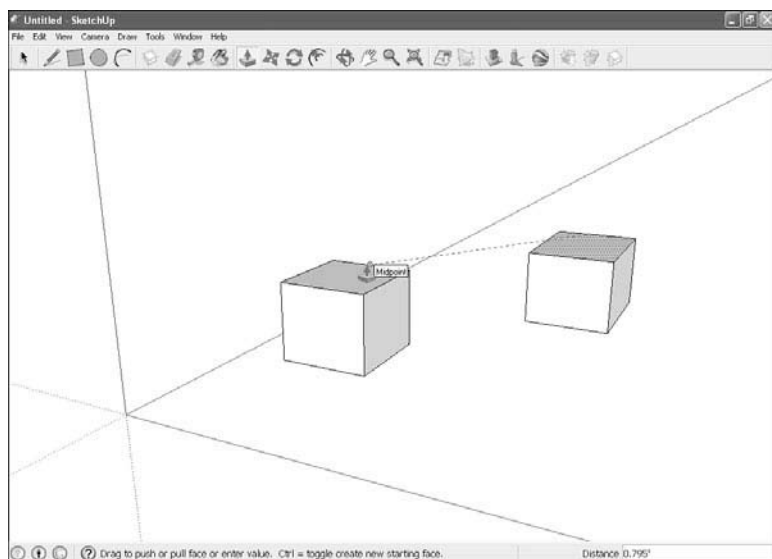

FIGURE 5.8 Making the cubes equal height.
6. Move the mouse to the top surface of the other cube. A dotted blue line extends from the first surface to the surface you’re inferring, as shown in Figure 5.8, and the first cube (the one you clicked first) snaps to the height of the second cube (the one you’re inferring to), as you can see in the figure.